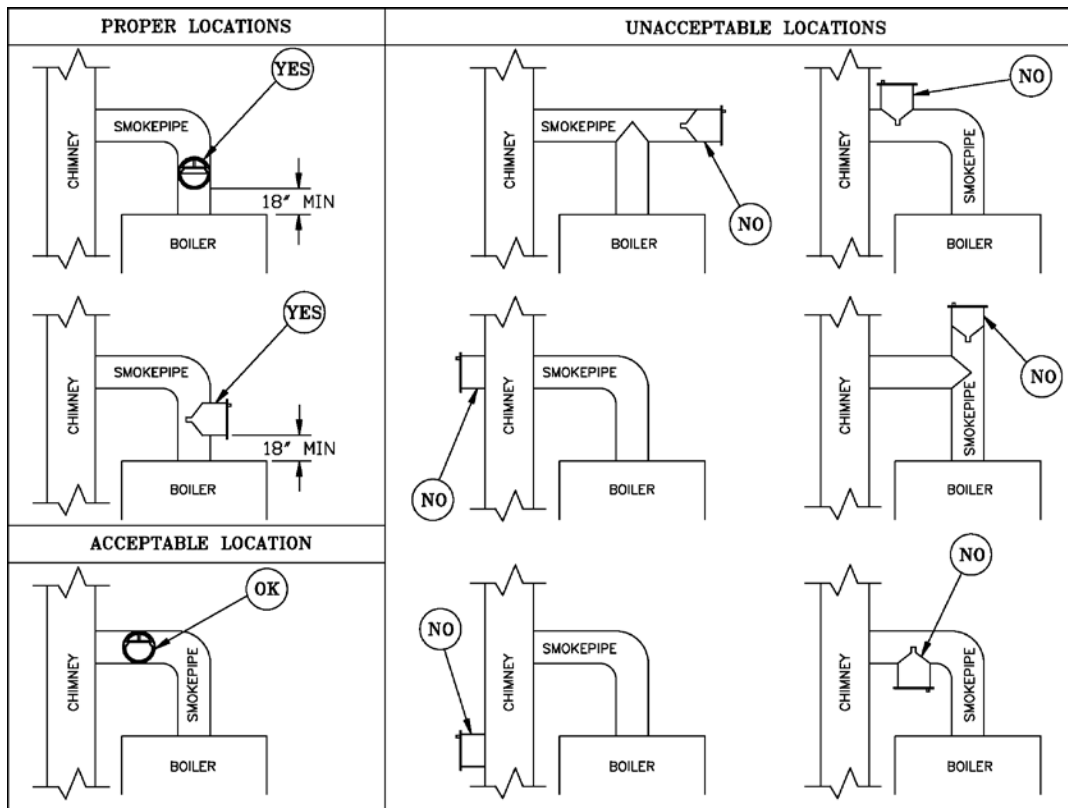

Figure 17: Proper and Improper Locations of Draft Regulator
1. Install a draft regulator (supplied by installer) following the instructions furnished with the regulator. See Figure 17 for draft regulator locations.